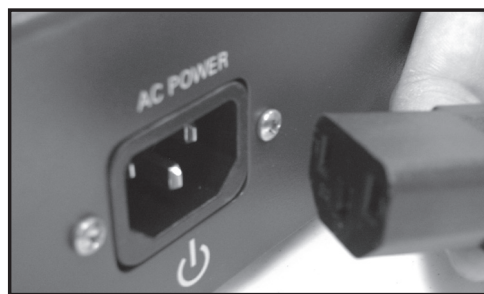

Figure 3
3. Connect the long end of the “Y” power cord to the monitor power input on the rear of the Merlin LCD as shown (see Figure 3).